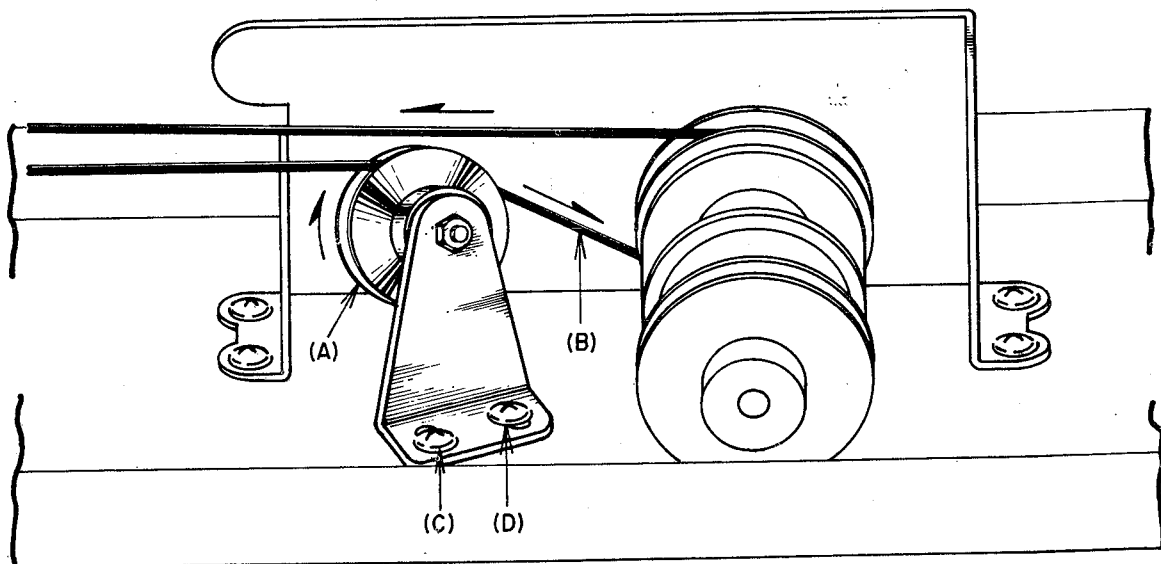

Fig. 17
(12) ADJUSTMENT OF BELT DRIVE CENTER PULLEY (See Fig. 17)